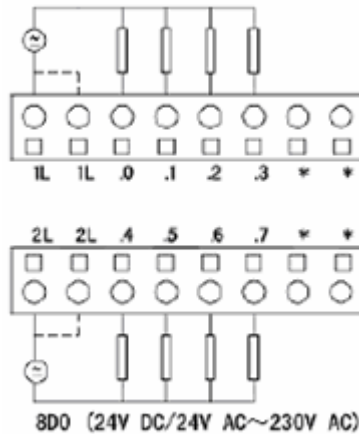

Figure 3-1-9 LM3222 Terminal Definition & Wiring
- 1L and 2L of DO channel in Figure 3-1-9 are load drive supply terminals of two groups output, it can be either DC or AC supply.
- 1L and 1L, 2L and 2L are connected inside circuit board (shown by broken line in Figure3-1-9).